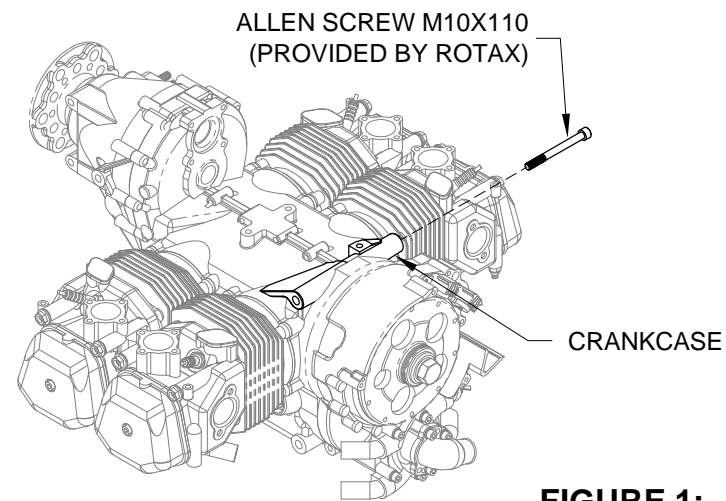

FIGURE 1:
Step 1: Remove the crankcase Allen screw located above and aft of cylinder three as it will be used as an engine mounting point. See Figures 1 and 5.